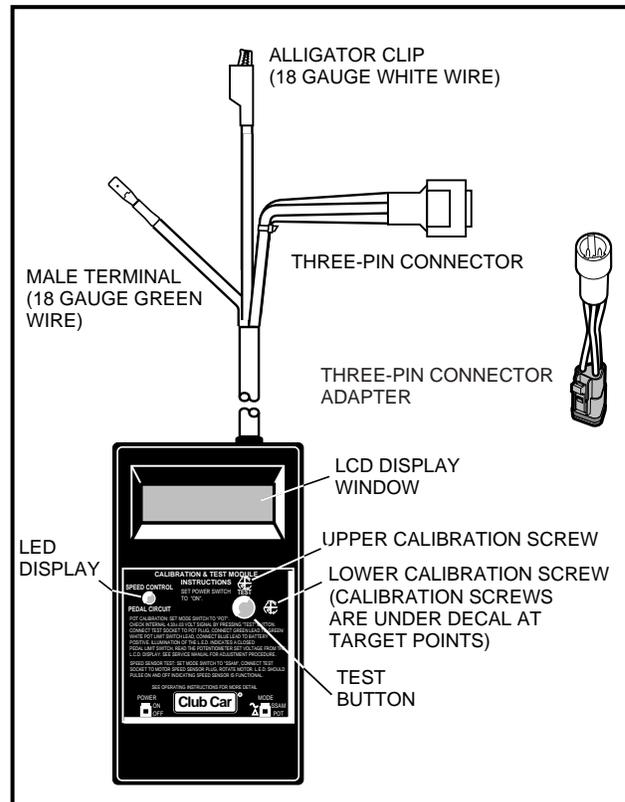

Figure 11-24 Calibration Test Module
2. Connect Calibration Test Module (CTM) (Club Car Part number 101887101) to the three-pin connector using plug adapter (Club Car Part Number 101984501) (**Figure 11-24, Page 11-17**).